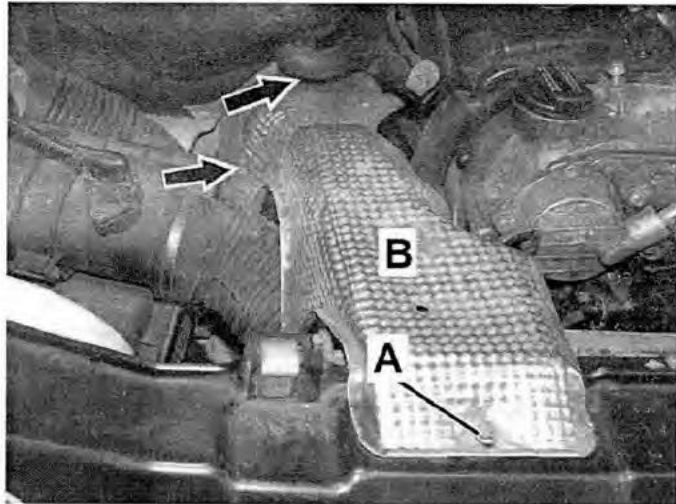

Figure 1
2. Remove nuts (arrows, Figure 1), remove bolt (A) then remove heat shield (B).